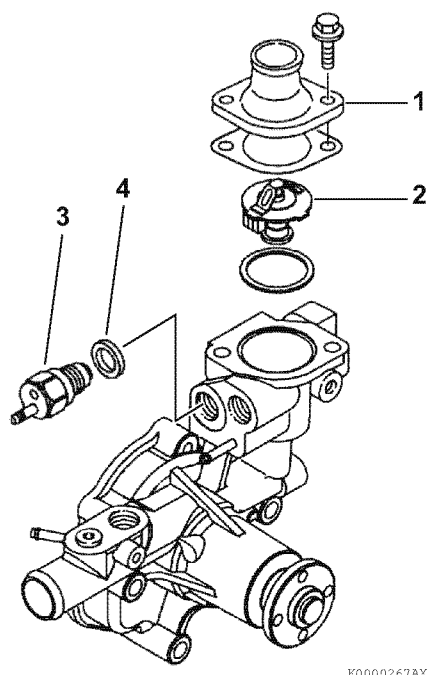

Figure 8-7
1. Remove the thermostat cover (**Figure 8-7, (1)**). Discard the gasket.
2. Remove the thermostat (**Figure 8-7, (2)**). Discard the O-ring. Remove the temperature switch (**Figure 8-7, (3)**) and gasket (**Figure 8-7, (4)**). Discard the gasket.